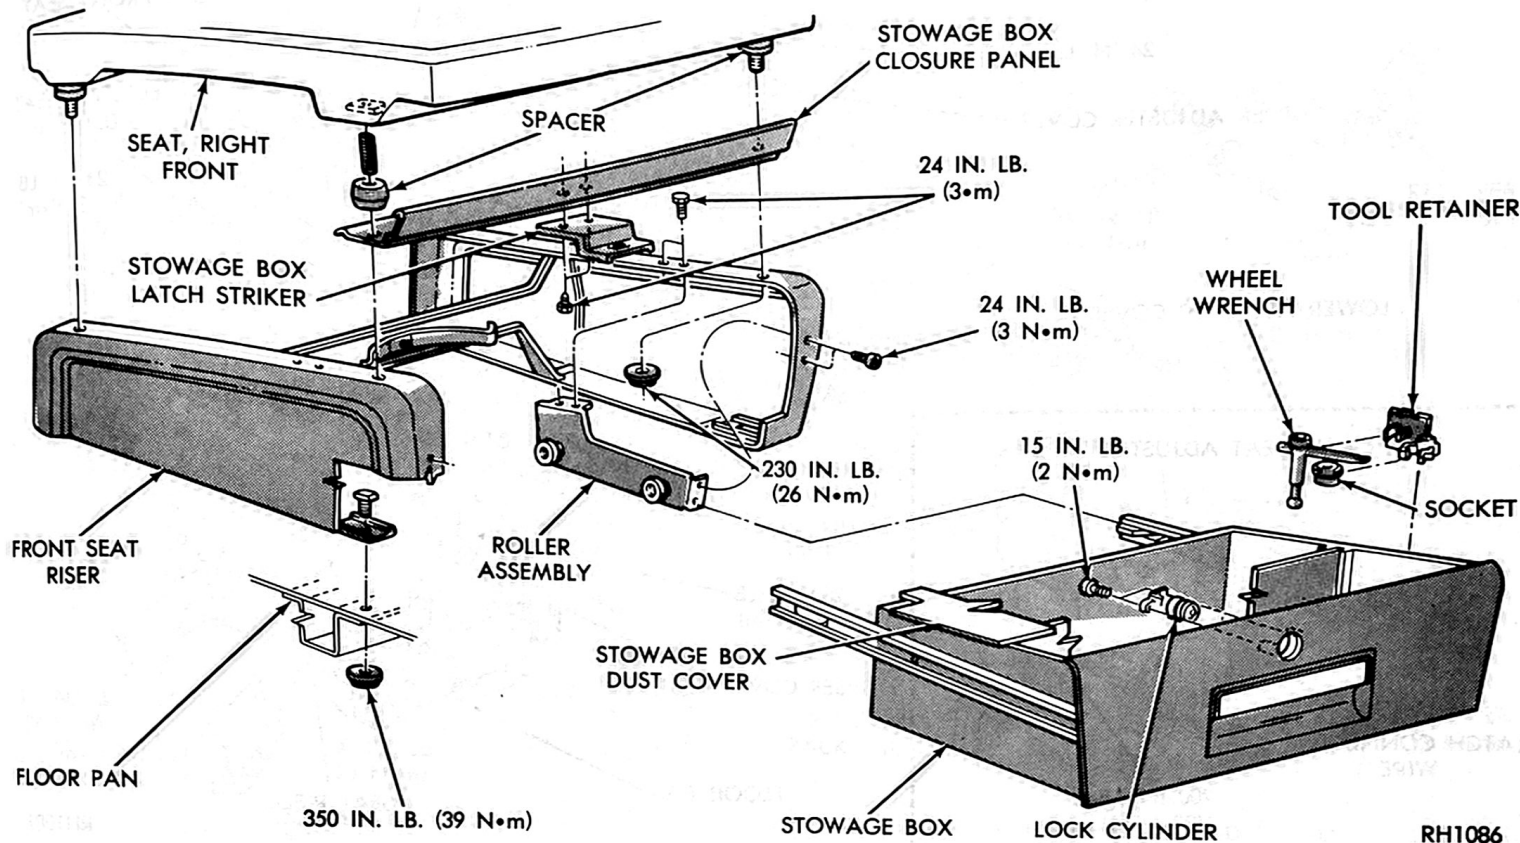

Fig. 3—Right Front Seat Riser and Stowage Box
- (1) Remove seat and riser assembly from vehicle floor pan.
- (2) Unlock the stowage box, and pull it from the riser until it stops.
- (3) Pull the spring clip in the center of the stowage box track outward on both sides, and remove the stowage box.
- (4) Remove seat riser rear trim covers.
- (5) Remove four nuts and separate seat from riser assembly (Fig. 3).
- (6) Remove the roller assemblies.